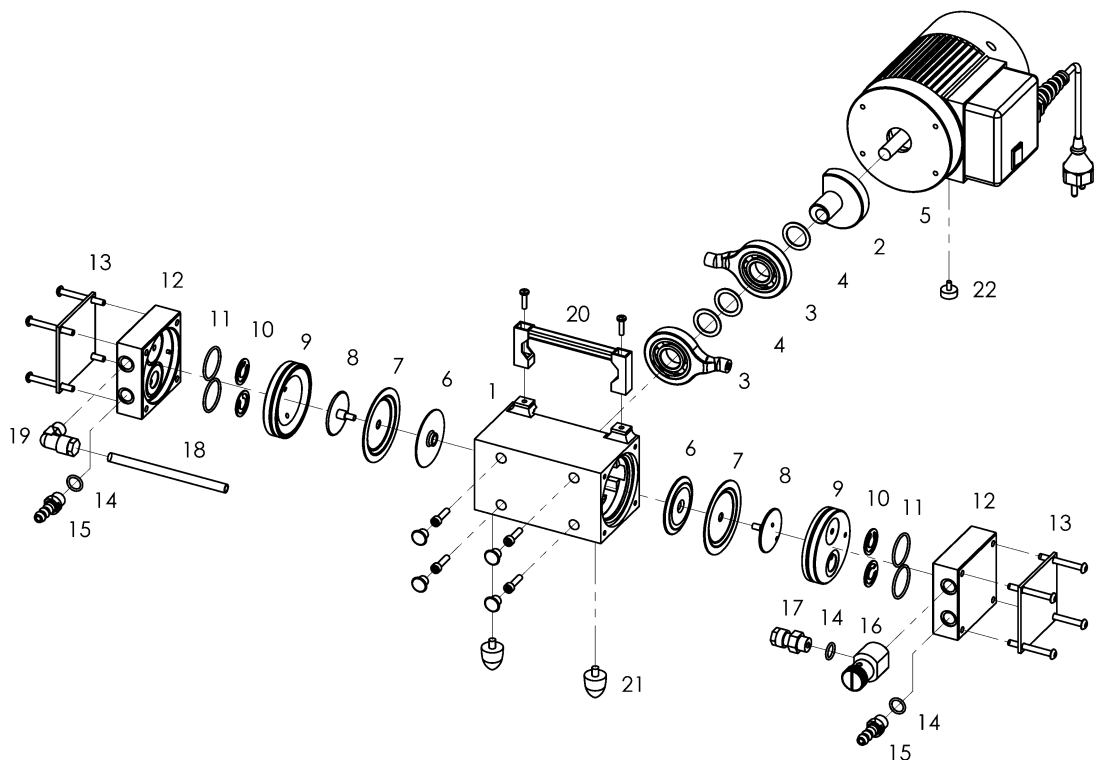

Fig. 6 Exploded view
3. Bring the connecting rod **(5)** (see Fig. 6) and the diaphragm **(8)** into the central position.